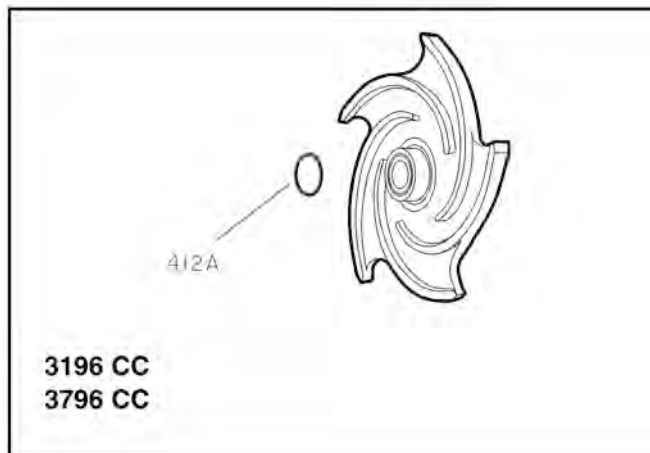

Figure 32:
6. Remove impeller O-ring (412A) and discard. Replace with a new o-ring during reassembly (Fig. 32 and 33).